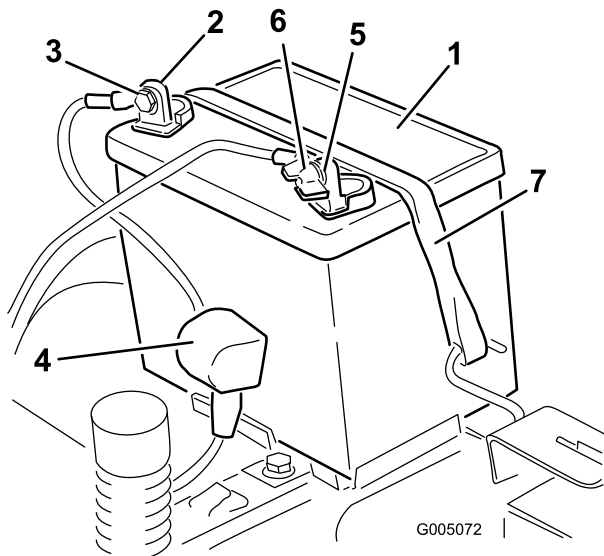

Figure 34
4. Disconnect the negative (black) ground cable from the battery post (Figure 34). Retain all fasteners.
5. Slide the rubber cover up the positive (red) cable. Disconnect the positive (red) cable from the battery post (Figure 34). Retain all fasteners.
6. Remove the battery hold-down (Figure 34) and lift the battery from the battery tray.
1. Position the battery in the tray (Figure 34).
5. Secure the battery with the hold-down (Figure 34).